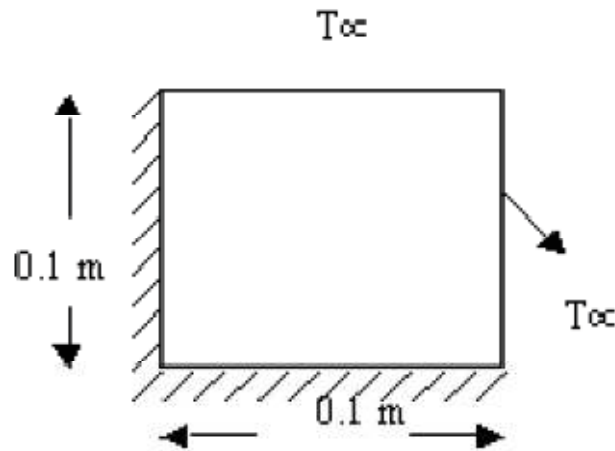

Fig.2
7. Find the temperature distribution in the square plate as shown in Fig 2. Assume $K = 30 \text{ W/m K}$, $T = 500^\circ\text{C}$ and $q = 100 \text{ W/m}^3$.